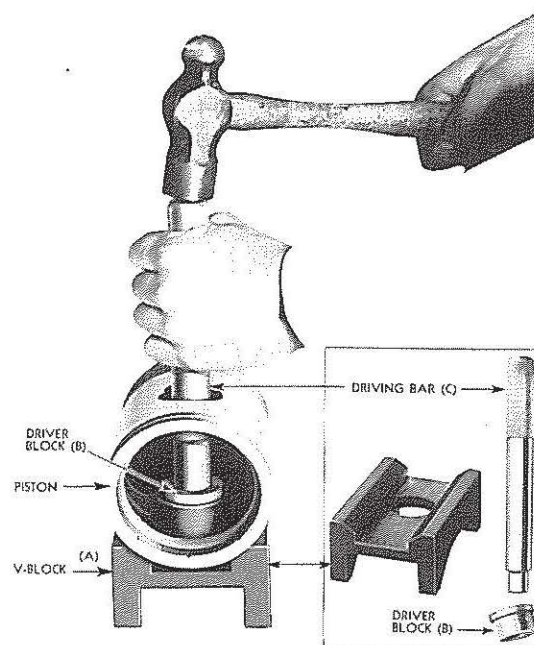

FIG. 9
2. Place piston in V-block with piston pin hole in alignment with hole in block. Fig. 9.